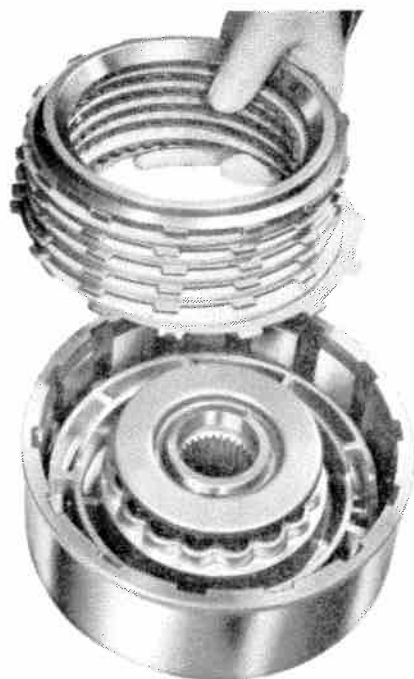

Fig. 7-82 Direct Clutch Assembly
(8) Lubricate with transmission oil and install flat, waved steel and composition clutch plates, starting with the waved steel plate and alternating composition and steel plates. Refer to fig. 7-82.